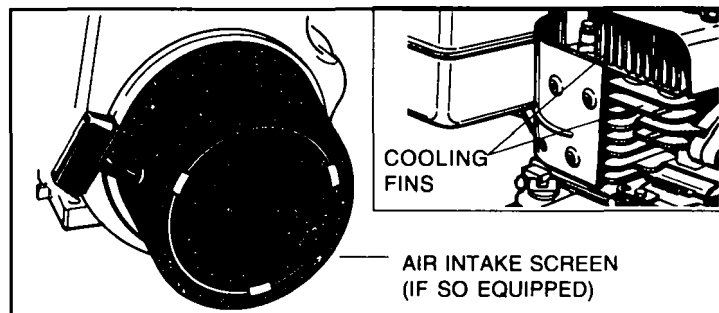

Figure 5
③ COOLING SYSTEM (see Figure 1 and Figure 5):